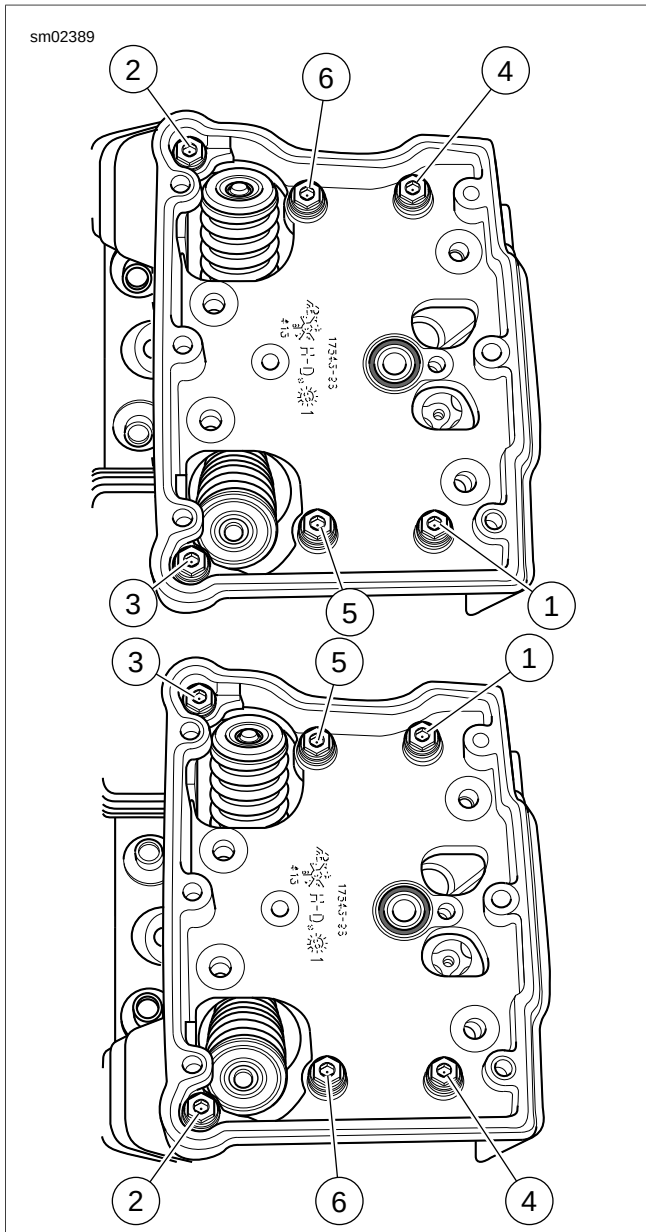

Figure 3-25. Rocker Housing Bolts Removal Sequence
1. See Figure 3-25. Following the sequence shown, loosen the six rocker housing bolts. Remove rocker housing bolts.